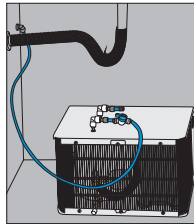
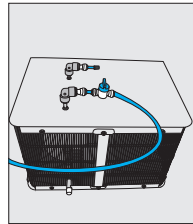

Figure 5
Figure 6
3. Flush the water line before installing the equipment. WATER IN tube to the unit should be plumbed directly from the mains potable water supply pipe nearest to the water cooler (Figure 5). Turn the water supply off (Figure 6). Cut the pipe and fit an appropriate tee piece to create a branch from the supply line. This tee piece should be as short as possible and terminated with an isolation/shutoff valve. Any accessories, such as filters, a leak detector, check valve (one way valve) and shutoff valve devices etc. can be fitted between this tee piece and the water cooler.